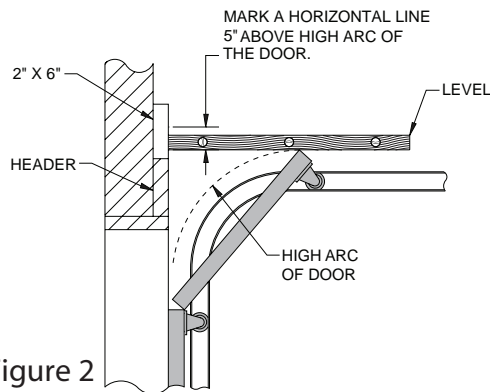

Figure 2
- 3) Use a level, as shown in **Fig. 2** to find the highest point of travel for the door. Mark this height along your vertical lines.